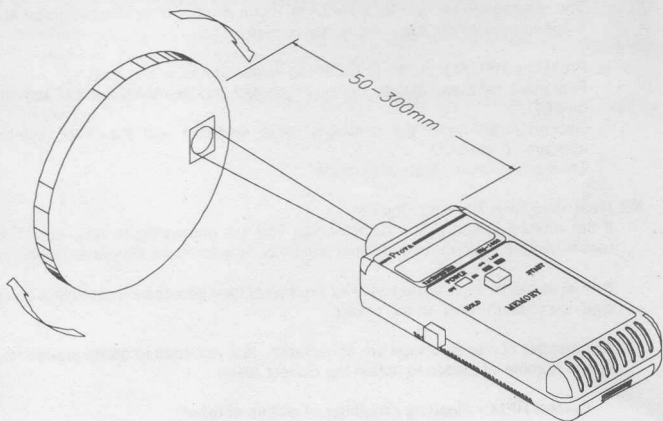

Figure 2
- f. Point the photoelectric probe at the object as Figure 2. Press the START button and confirm that the red emitting LED lamp lights up. Then read the rotational speed on the LCD display.